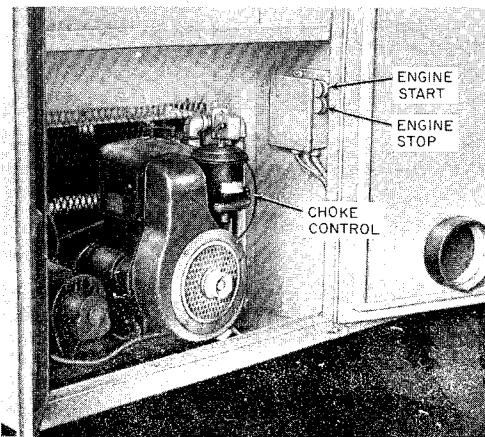

Fig. 10—Auxiliary Engine Controls
4.02 To place the lift in operation, start the auxiliary engine (Fig. 10) using the following procedure: